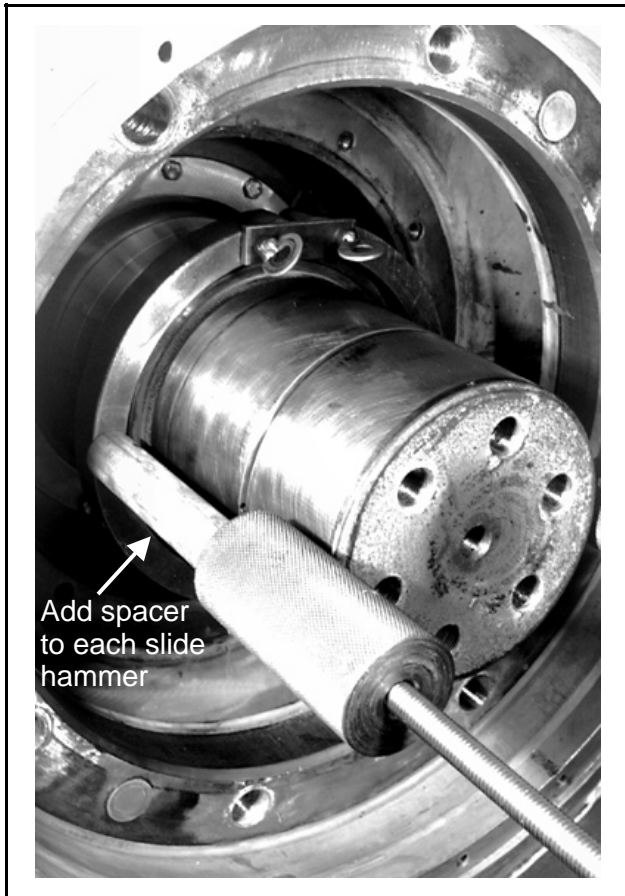

FIGURE 15 (MSSM0275AE)
- Add spacers to each *shaft sleeve tool* slide hammer as shown in FIGURE 15. Use slide hammers to gently tap *shaft sleeve* into place.